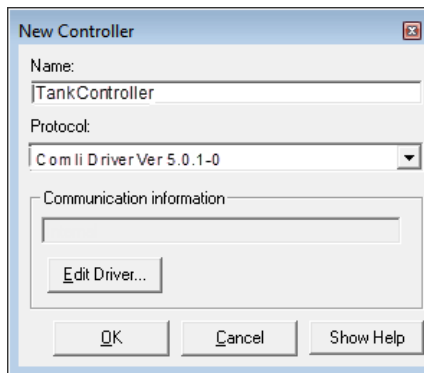

Figure 18. Selected Communication Protocol
6. Select the protocol to use for communication with the controller as shown in Figure 18.